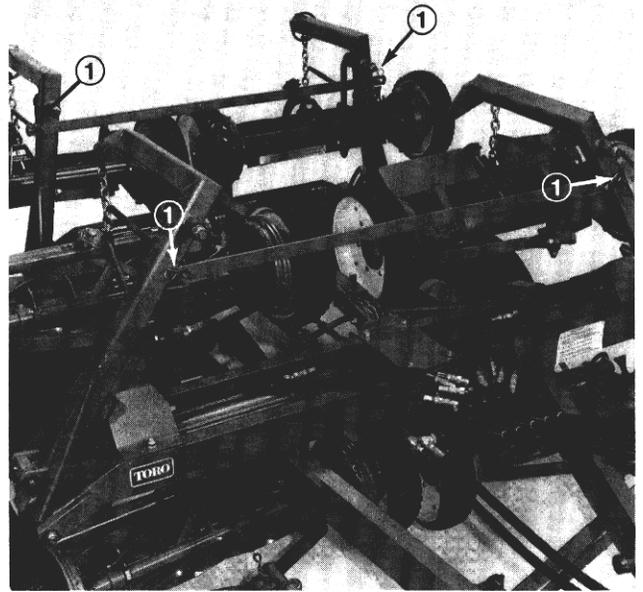

Figure 20
3. Mount transport straps to mounting pins on lift arms and secure with hair pin cotters (Fig. 20).